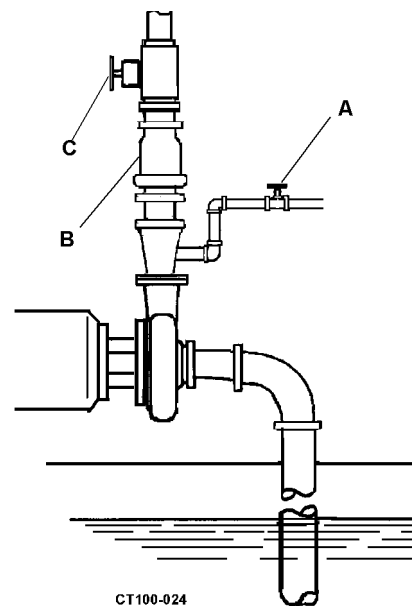

Figure 2 - Pump Above Supply
1. Close discharge valve (Figure 2, item C) and open air vents.
2. Open the valve installed in the outside supply line (Figure 2, item A) until liquid flows from vent valves.
***NOTE:** Use a check valve system (Figure 2, item B) to keep supply line and pump casing flooded with liquid. Otherwise the pump must be primed before each operation.*